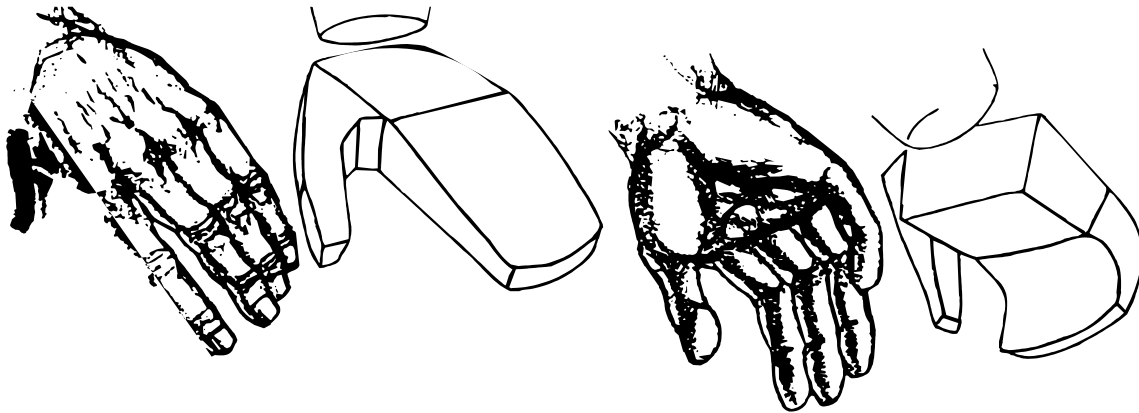

Figure K-6. Hand construction using form envelopes.
excellent drawings of hands, using his own as models. Since there is very little flesh on the hand, except on the palm side, the illustrator should have a good knowledge of the bone structure to draw it well. Using a form envelope to enclose the many small forms is of great help. (See Figure K-6.)
(1) Observe in Figure K-6 that the palm without the fingers is nearly square, and that the fingers are about as long as the palm. When the fingers are extended, the hand is about three-quarters as long as the forearm or is equal to the distance from the chin to the hairline. In drawing hands, be sure to draw them large enough.